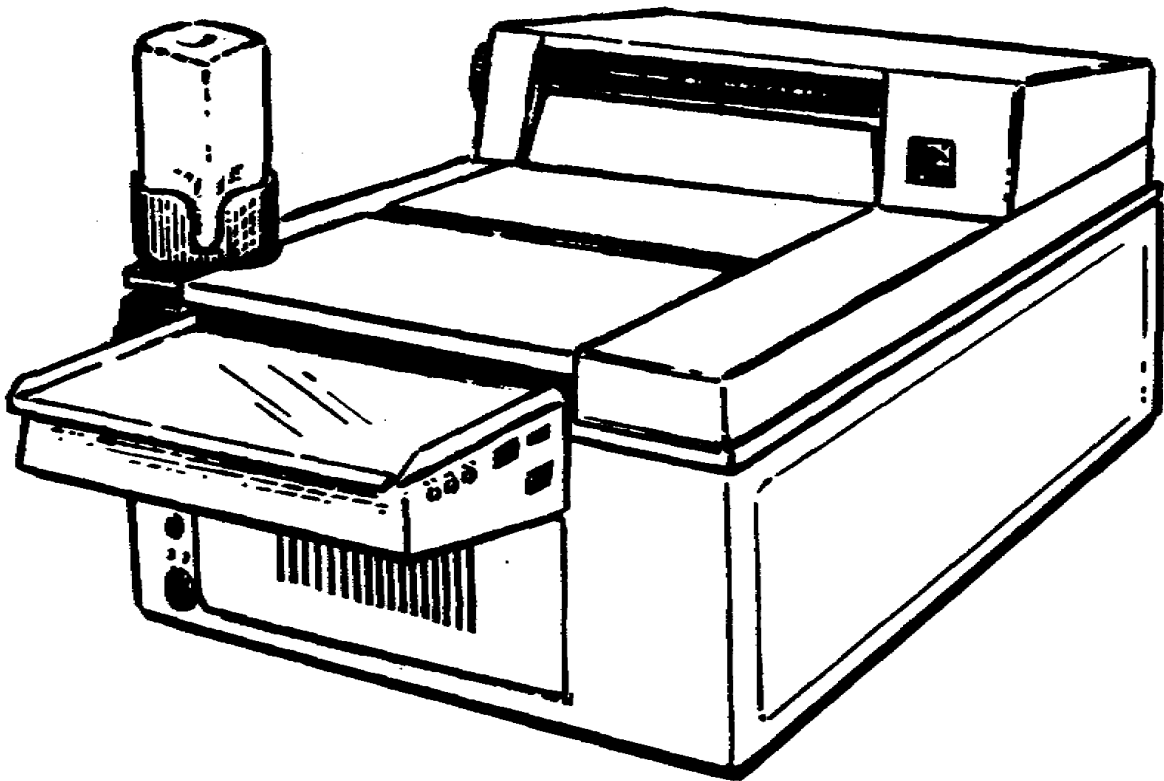

Figure 1-1. Kodak print processor
4. The Kodak Print Processor (fig 1-1) will deliver a 10-inch print in about 55 seconds with a production capability for 720 8- by 10-inch prints per hour.